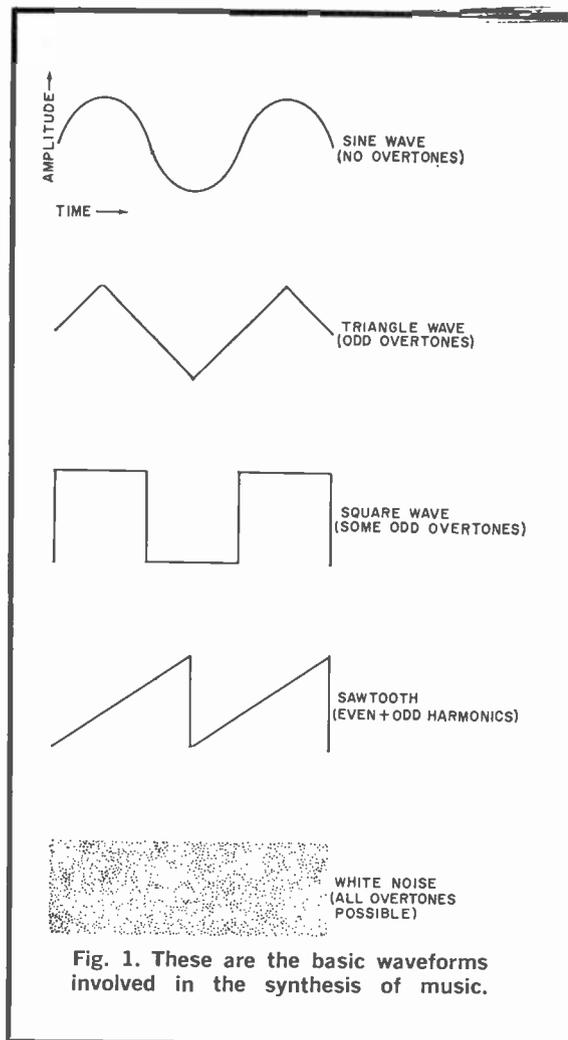

Fig. 1. These are the basic waveforms involved in the synthesis of music.
**Typical Generators.** Periodic or cyclic waveforms—sine, square, sawtooth, and triangle waves—form the backbone of electronic music generators (see Fig. 1). Most instruments (synthesizers) contain as many as several dozen oscillators, each capable of simultaneously providing some, and frequently all, of the basic waveforms. Each waveform has a distinctive sound quality all its own, an important feature in electronic music. It is necessary to have at least a basic understanding of overtones (harmonics) to understand why the waveforms have different characteristic sounds.